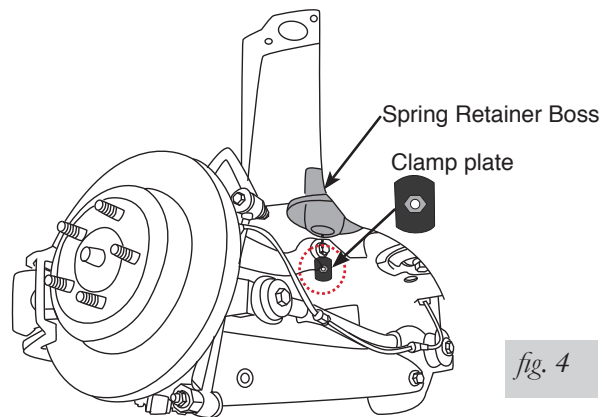

fig. 4
1. Insert clamp plate into spring retainer boss with the nut facing upward (fig. 4).